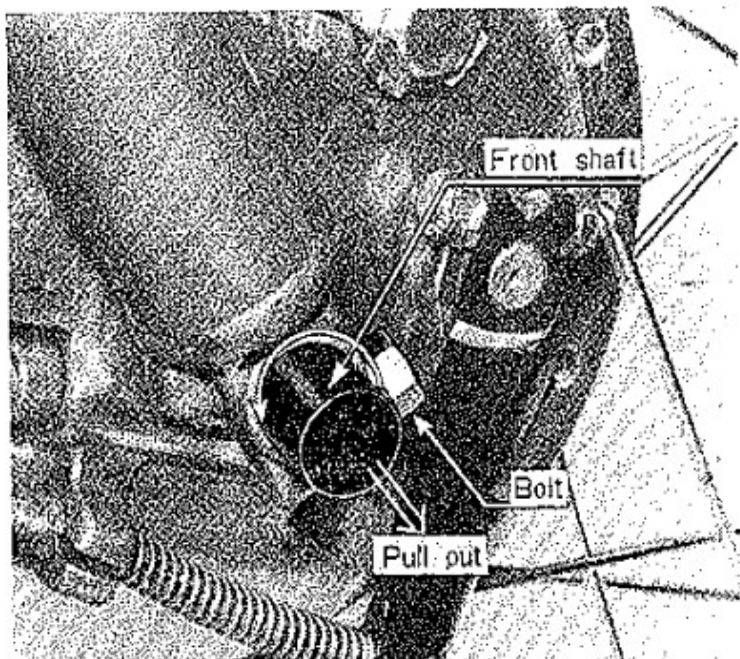

Fig. 30
- b) Unscrew axle bolt and withdraw front shaft by turning it anti-clockwise. (Fig. 30, 31)